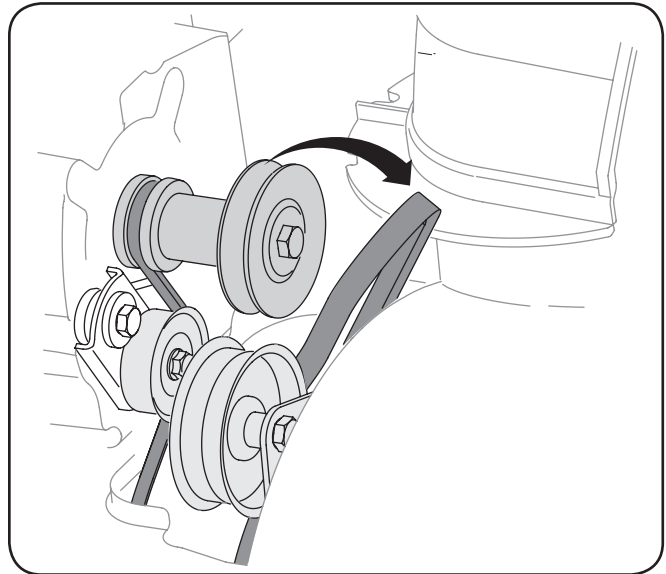

Figure 7-3
3. Remove the frame cover from the underside of the snow thrower by removing the self-tapping screws which secure it. Refer to Fig 7-3.
4. Roll the auger belt off the engine pulley. See Fig. 7-3.